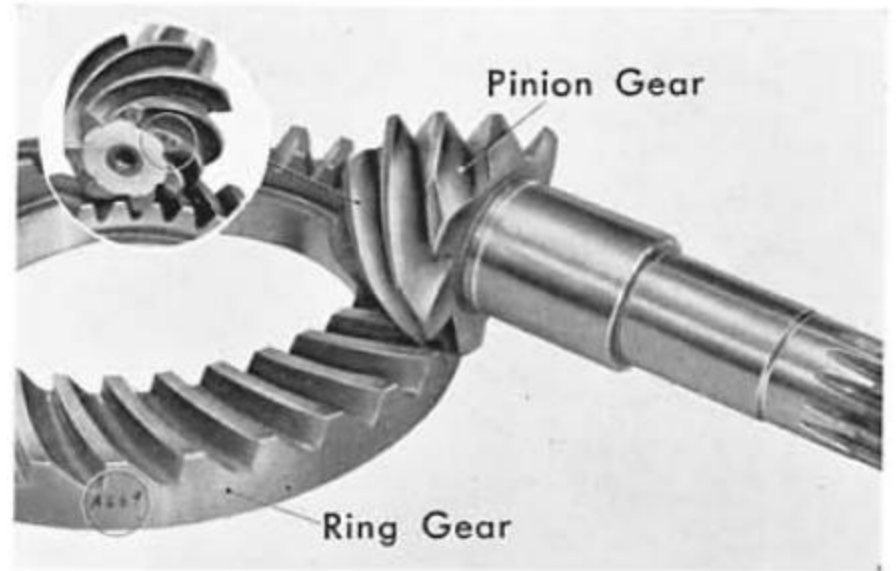

Fig. 8C-7
9. Align the bolt holes in the ring gear to the differential gear case and install the bolts and tighten in a diagonal pattern (Fig. 8C-8).